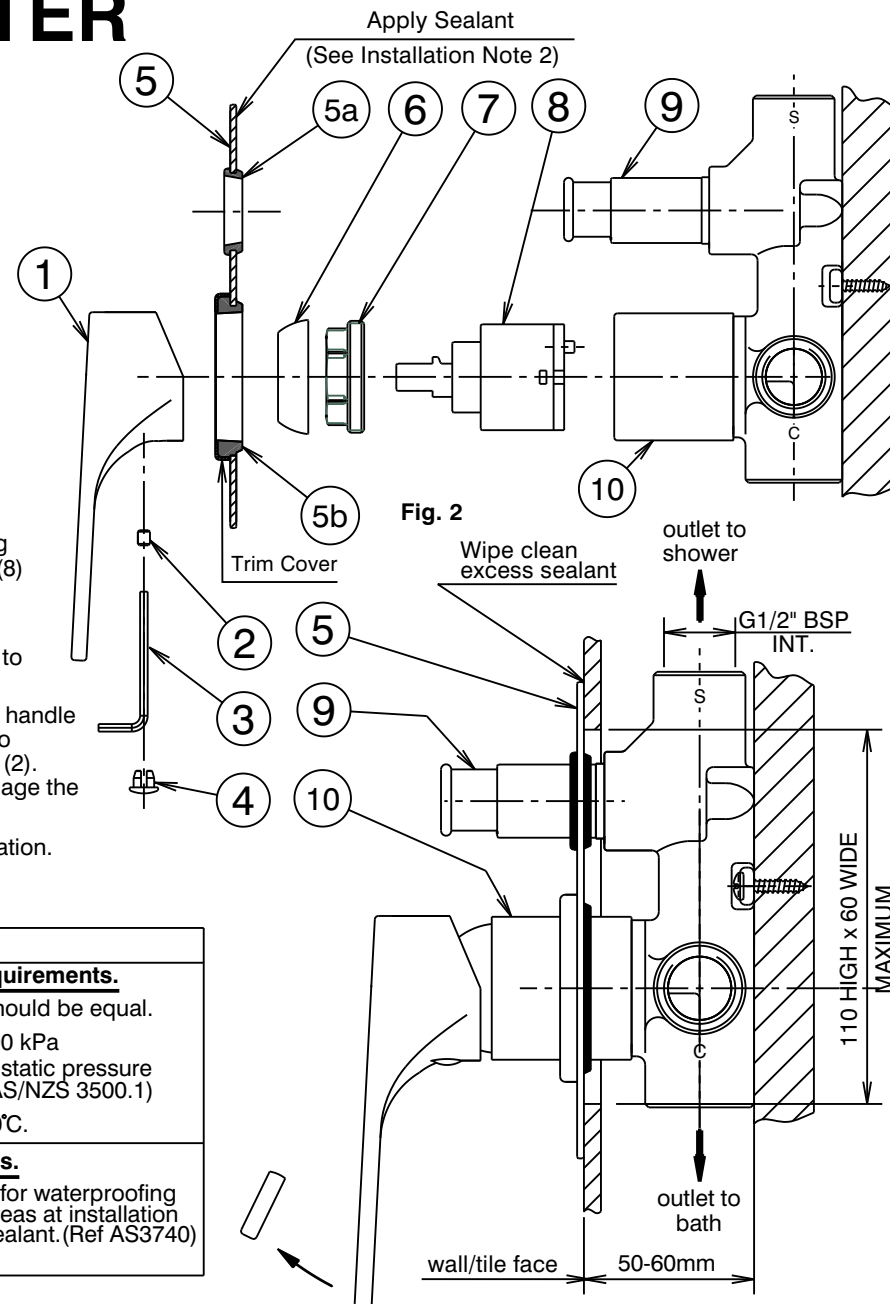

Fig. 1
Installation (Fig. 1 & 2)
- 3) Carefully slide the cover plate (5) together with trim cover & seals (5a & 5b) onto the mixer body (10) and diverter sleeve (9), push firmly on the trim cover & diverter seal (5a) until the cover plate (5) contacts the wall/tile face and the sealant has formed a watertight joint. Wipe clean any excess sealant from the chrome surfaces & the wall/tile face (See Fig. 1).
- 4) Fit handle (1) taking care that it is pushed fully onto cartridge stem, then tighten grub screw (2) using the 2.5mm allen key (3). Fit plug (4), taking care not to damage the decorative finish.